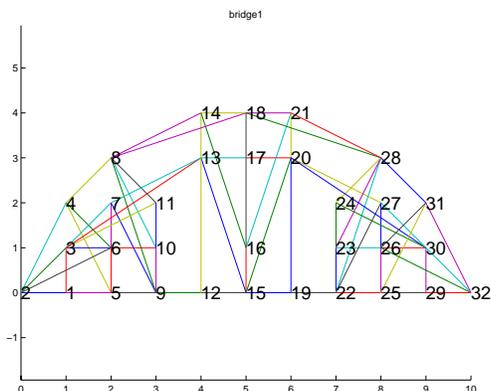

Figure 1: Geometry of a bridge1 with labeled nodes.
a) After downloading and unzipping the truss and SDPT3 packages, you will see a file called `bridge1.txt`. Download the text file `bridge1.txt` for the bridge shown in Figure 1.
The format of the input in this file is “node1x node1y node2x node2y area”. For example, the first line of the `bridge1.txt` file is “1 0 0 0 1.6”, which means that there is a bar from (1,0) to (0,0) of area 1.6. (Note that the file contains an extra last line.) Run `truss.m` (just type `truss`) to prepare an input file for the SDPT3 program. Constrain the two end nodes of the bridge (nodes 2 and 32 as you can see in Figure 1) in both the  $x$  and  $y$  degrees of freedom (you will be prompted for this information).